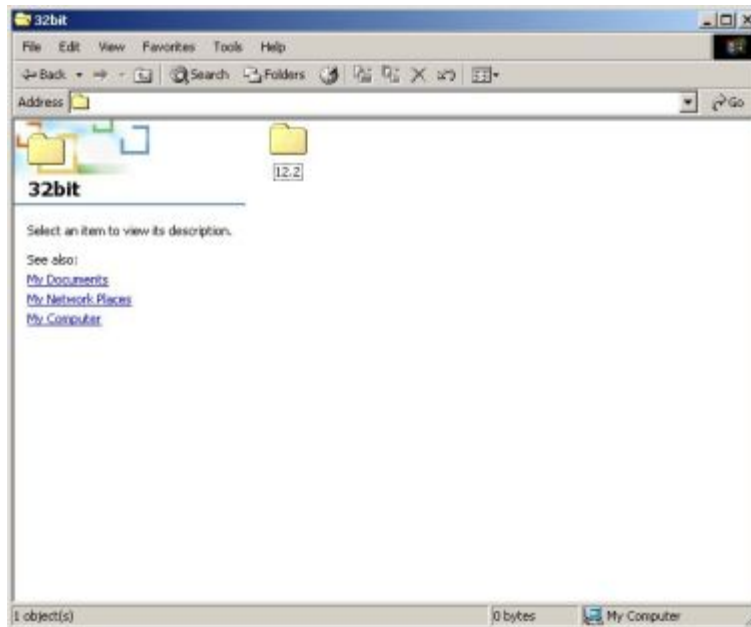

Figure 6-22: Driver Directory
Step 8: The window in **Figure 6-22** appears.
Step 9: Click on the directory icon. A window containing the Intel® 82573 driver startup icon appears. See **Figure 6-22**.